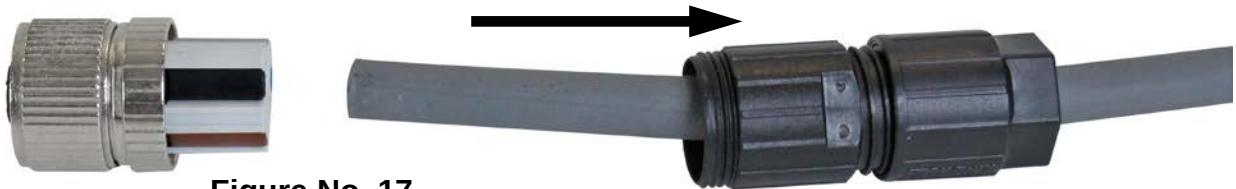

Figure No. 17
1. Disassemble the connector (unscrew the black plastic part of the connector from the metal part), and then slide the black plastic part onto the homerun cable. See Figure No. 17.